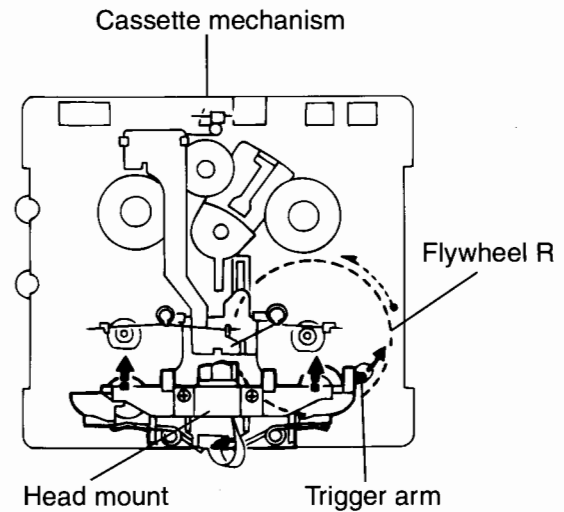

Fig. 1
■ Removing the Playback/Recording & Eraser Head (See Figs. 1 and 2)
1. While shifting the trigger arms seen on the right side of the head mount in the arrow direction, turn the flywheel R in counterclockwise direction until the head mount has gone out with a click (See Fig. 1).
(2) Life of the laser diode (Fig.1)
(Fig.1)